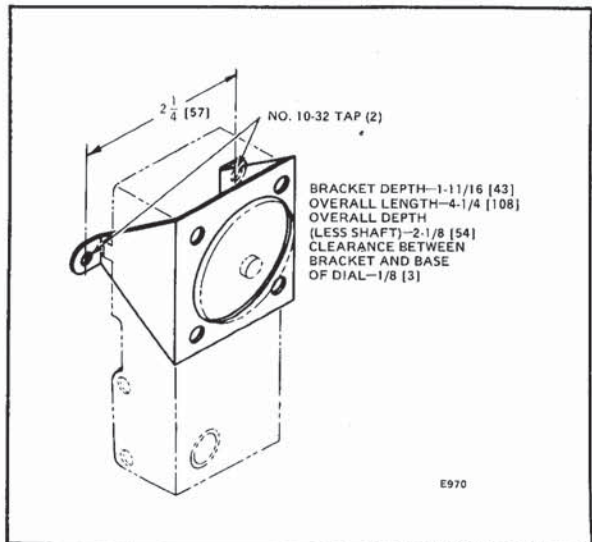

FIG. 3—FRONT MOUNTING BRACKET, IN in. [mm].
- Models without case, including brackets—see Fig. 3.
Front mounting brackets are available. See Fig. 3 for mounting information and dimensions.